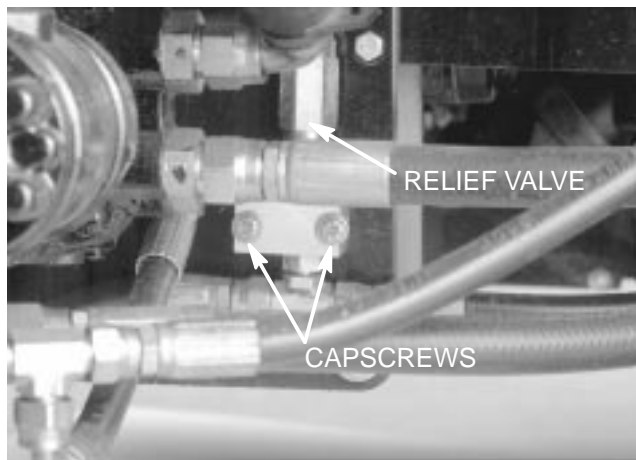

Figure 35
13. Separate relief valve from the pump plate by removing both cap screws flat washers, and lock nuts (Fig. 35).
9. Secure relief valve to the pump plate with both cap screws, flat washers, and lock nuts (Fig. 35).